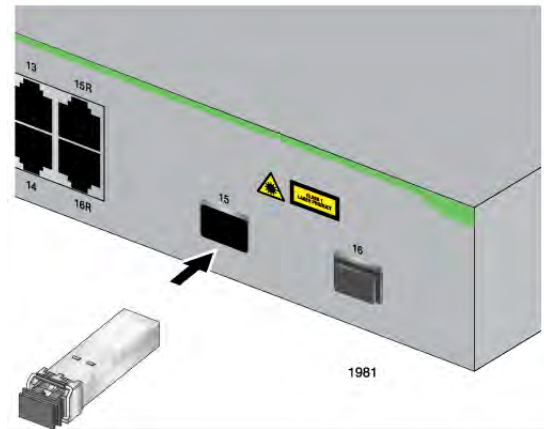

Figure 13. Inserting the SFP
- Slide the transceiver into the SFP slot until it clicks into place. See Figure 13